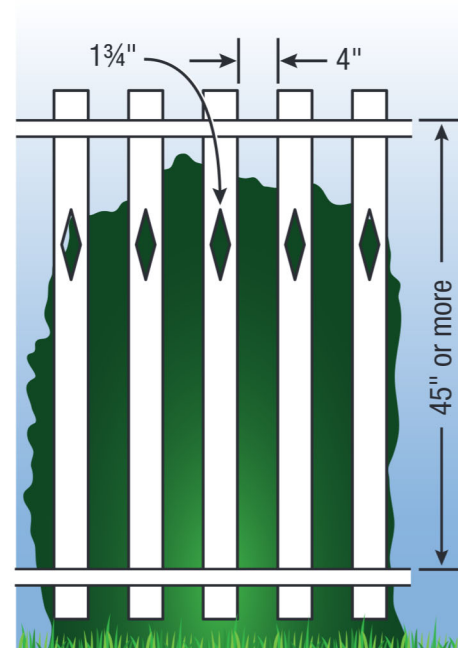

Figure 4
7. **Spacing between vertical members** should not exceed $1\frac{3}{4}$ inches in width. Where there are decorative cutouts, spacing within the cutouts should not exceed $1\frac{3}{4}$ inches in width (figure 4).